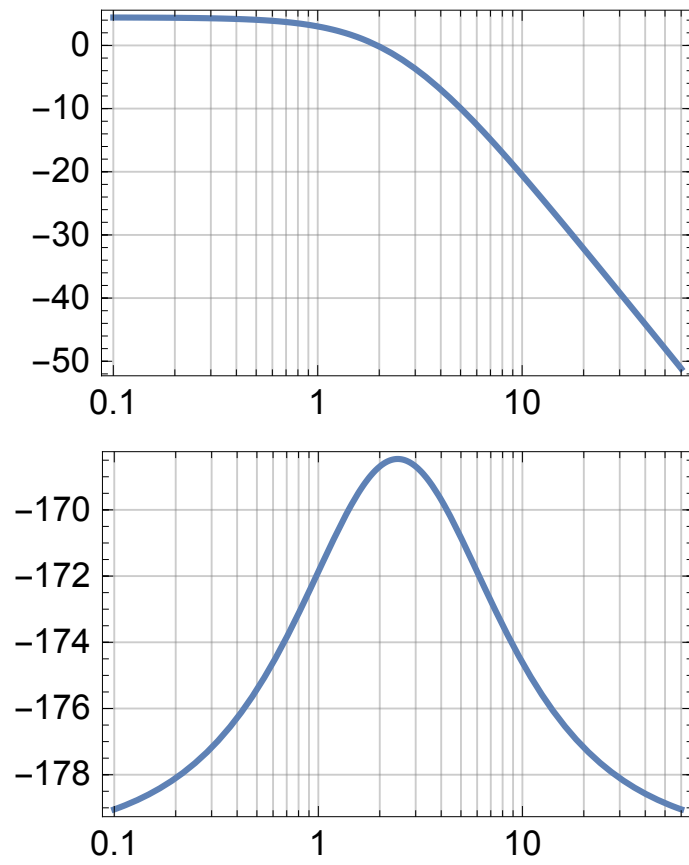
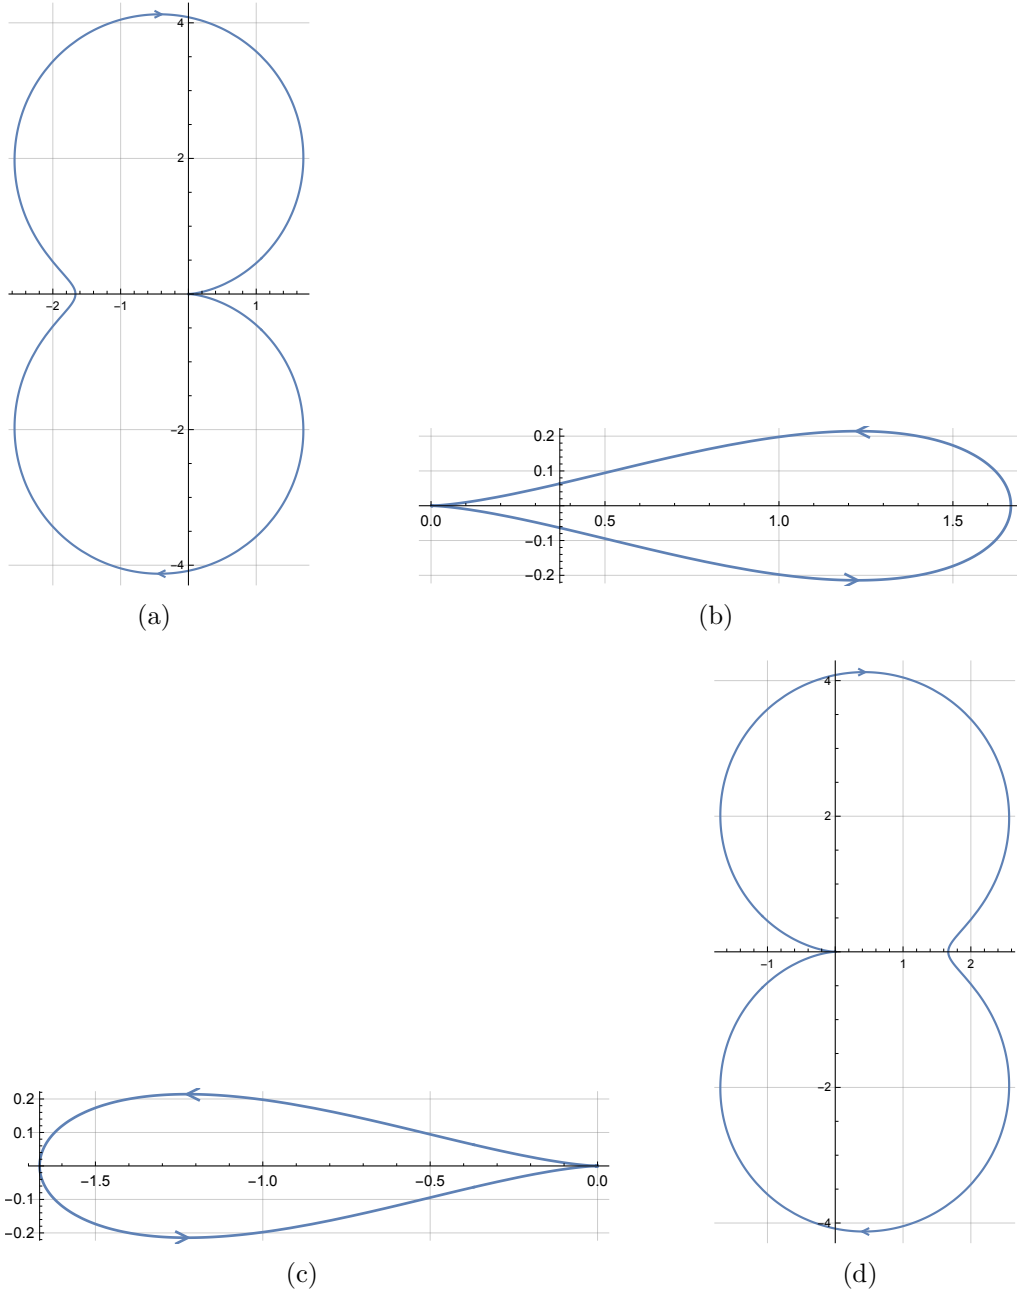

Figure 2: Bode diagram with log-linear scale for the gain plot (gain magnitude in dB).
Figure 3: Nyquist plots
with k_p initially set to $k_p = 1$. The Bode diagrams of the loop transfer function $L(s) = C(s)P(s)$ are obtained experimentally and given in Figure 2.
- a. (3pt) Look at the Nyquist plots in Fig. 3, state which one corresponds to the Bode diagrams of Figure 2 and determine whether or not the closed-loop system is asymptotically stable or unstable.